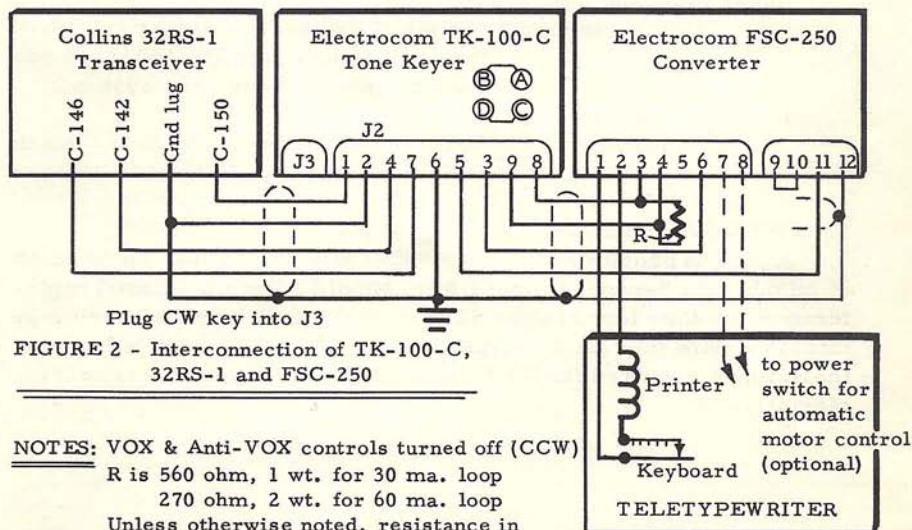

FIGURE 2 - Interconnection of TK-100-C,
In vhf systems where Audio Frequency Shift Keying is normally used the standard tone frequencies are 2125 cps for Mark and 2975 cps for Space. Since the "S" line and KWM-2 will not pass the 2975 cps tone, it is necessary to use a lower frequency space tone when operating with this equipment. Tone frequencies suggested for this application are 2125 cps for Mark and 1275 cps for Space. Tone networks and filters are available for these frequencies for both the TK-100 and FSC-250. Since these networks are plug-in units, they may be interchanged so that the TK-100 and FSC-250 may easily be adapted to either system. Should the owner of the "S" line wish to modify his equipment for using the standard 2125 and 2975 cps tones, one possible method for doing so is shown in Figure 2 (transmitter modification) and in Collins bulletin number 523-0182-00, paragraph 1.3.3, dated 15 September 1961 (receiver modification.)*
1.1 Interconnect units as shown in appropriate wiring diagram, figure 1 or figure 2.
Wiring interconnections for the TK-100-C, 32RS-1, and FSC-250 are shown in Figure 2 of "Technical Information Bulletin Number 102." Wiring is easily accomplished with two four-conductor shielded cables feeding from J2 on the TK-100-C: one cable going to the 32RS-1 connections, the other to the FSC-250. A cable kit (Electrocom part number 10092) is available which contains the necessary cable, loop current sensing resistors (R), and accessories.